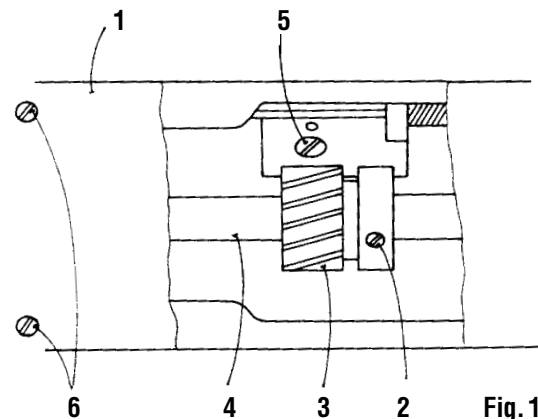

Fig. 18
18. Setting of the zigzag stitch shifting (Fig. 18)
For taking up the teeth clearance in the zigzag stitch gearing there serves the eccentric pin (13, Fig. 17). If we want to change the clearance, we must dismount first the upper guard (1, Fig. 18) after having unscrewed four fastening screws (6, Fig. 18). After having loosened the screw (5, Fig. 18) which is placed on the riser in the arm space, proceed, in turning a bit the eccentric pin (13, Fig. 17), to taking up of the teeth clearance in the zigzag stitch gearing, namely between the toothed wheel on the complete cam and the toothed wheel (3, Fig. 18) on the upper shaft. Secure the adjusted position by tightening orderly the screw (5, Fig. 18).